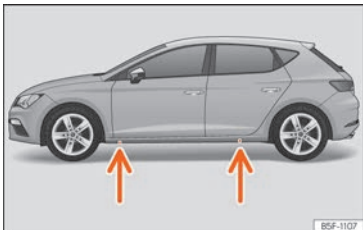

Fig. 78 Crossbar: brands.
- Find the support point on the strut (sunken area) closest to the wheel to be changed >>> Fig. 78.